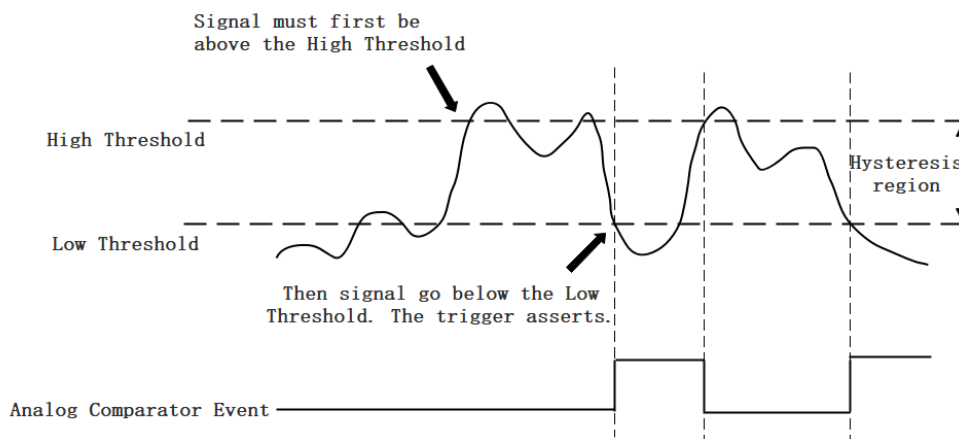

Figure 18 Hysteresis with Falling Slope Trigger
*Hysteresis with Falling Slope Trigger:* The Hysteresis comparator output is high when the signal must first be above the high threshold, then goes below the low threshold. The output will change to low when the signal goes above the high threshold as shown in Figure 18.